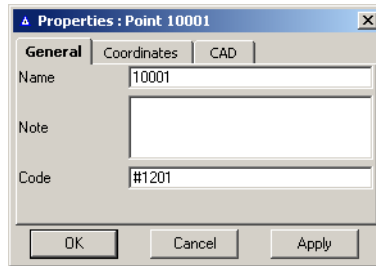

Figure 4-59. Point Properties – General Tab
2. On the *Properties* dialog box, click the *General* tab (Figure 4-59 on page 4-45).